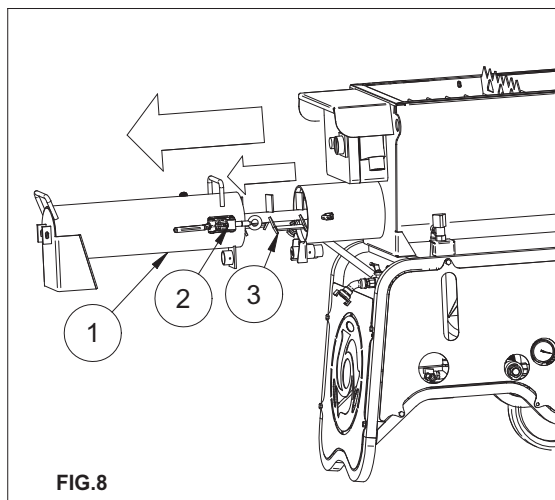

FIG.8
13. MIXER CLEANING AND SHUTDOWN (see fig.8)